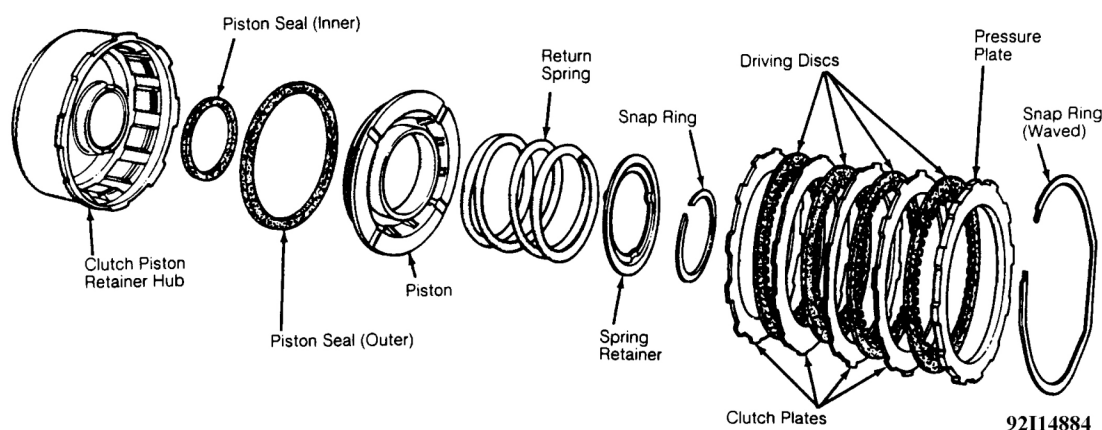

Fig. 9: Exploded View of Front Clutch Assembly
1. Lubricate and install inner seal on hub of clutch retainer. See **Fig. 9** . Ensure lip of seal faces down and is properly seated in groove.